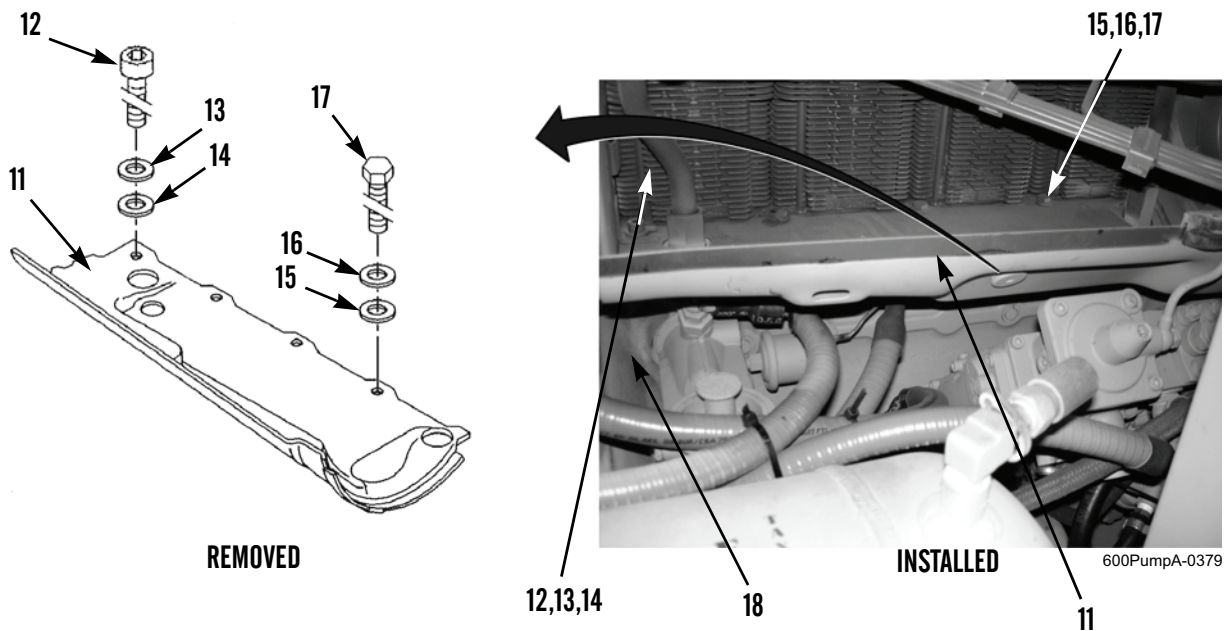

Figure 3. Lower Right Cooling Air Guide Plate.
3. Remove capscrew (Figure 3, Item 12), lockwasher (Figure 3, Item 13), and washer (Figure 3, Item 14) from lower right cooling air guide plate (Figure 3, Item 11). Discard lockwasher.
4. Remove three bolts (Figure 3, Item 17), lockwashers (Figure 3, Item 16), washers (Figure 3, Item 15), and lower right cooling air guide plate (Figure 3, Item 11) from engine block (Figure 3, Item 18). Discard lockwashers.
1. Install lower right cooling air guide plate (Figure 3, Item 11), three washers (Figure 3, Item 15), new lockwashers (Figure 3, Item 16), and bolts (Figure 3, Item 17) on engine block (Figure 3, Item 18).
2. Install washer (Figure 3, Item 14), new lockwasher (Figure 3, Item 13), and capscrew (Figure 3, Item 12) on lower right cooling air guide plate (Figure 3, Item 11) and engine block (Figure 3, Item 18).